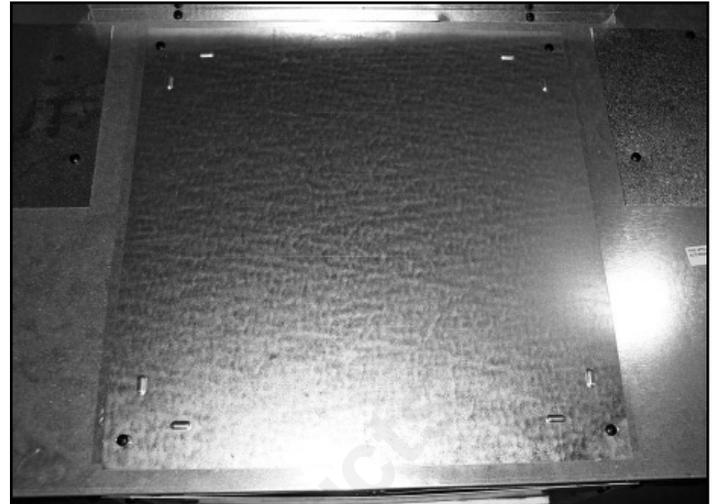

**Figure 7.13 Place Insulation over the Cover Plate**
- Place the white insulation with the slot around the outer collar. See Figure 7.13.